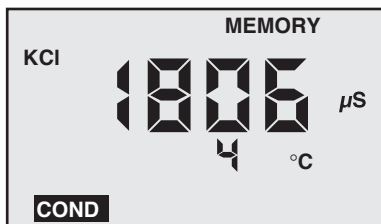

Figure 9
2. “**MEMORY**” will appear and the temperature display will be momentarily replaced by a number (1-100) showing the position of the record. Figure 9 shows a reading of 1806  $\mu\text{S}$  stored in memory record #4.